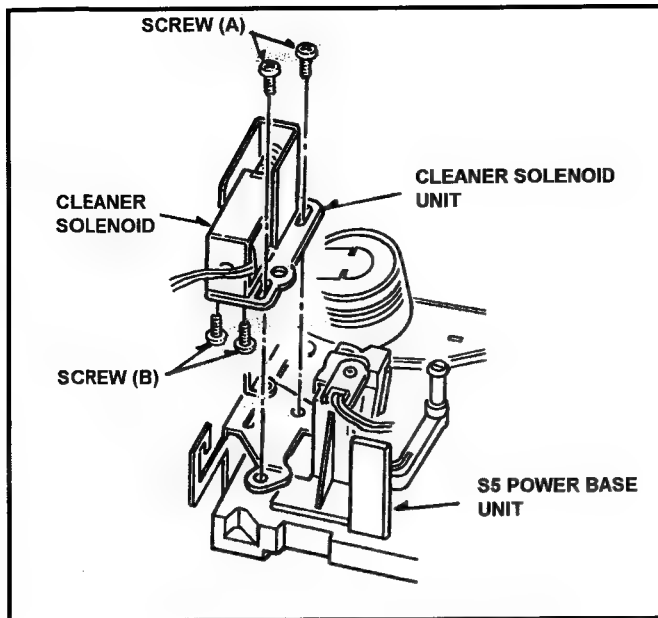

Fig.6-17-1 Removal of Cleaner Solenoid
4. Unscrew the 2 screws (A) and remove the Cleaner Solenoid Unit as shown in Figure 6-17-1.
5. Unscrew the 2 screws (B) and remove the Cleaner Solenoid as shown in Figure 6-17-1.